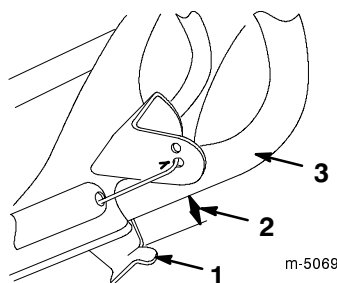
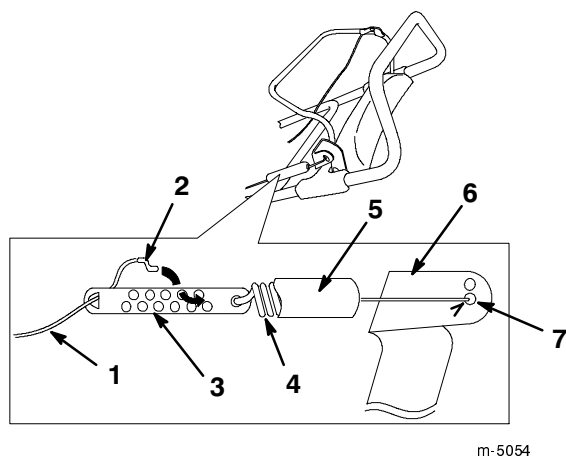

Figure 10
Figure 11
3. Ensure that a 1/8 to 1/4 inch (3 to 6 mm) gap exists between the control bar bracket and the handle as shown in Figure 10.
1. Unhook the spring end from the hole in the center of the control bar bracket as shown in Figure 11.
3. Unhook the Z-fitting from the cable adjuster (Fig. 11), and position it in a different hole on the adjuster to obtain a proper gap of 1/8 to 1/4 inch (3 to 6 mm) between the control bar bracket and the handle (Fig. 10).
5. Hook the spring into the hole in the center of the control bar bracket as shown in Figure 11.
Note: After extended use, the drive belt may wear and lose its proper belt tension. Improper belt tension causes the belt to slip and decreases the performance under a heavy load. Belt slippage may occur after two or three seasons of normal usage (10 to 15 hours). If the drive belt slips (continuously squeals) under a heavy load, increase the belt tension by positioning the spring end in the other hole in the control bar bracket as shown in Figure 11. Adjust the gap between the control bar bracket and the handle to 1/8 to 1/4 in. (3 to 6 mm).